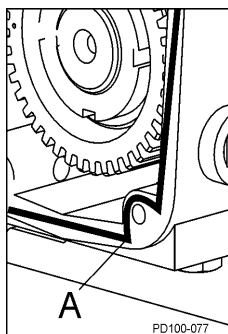

Figure 64 Sealant Placement
3. Apply silicone sealant to the back of the gear case. (Gore-Tex® sealing tape can be used on silicone-free models.) Place tape on the inside of the screw holes. (Figure 64, item A).